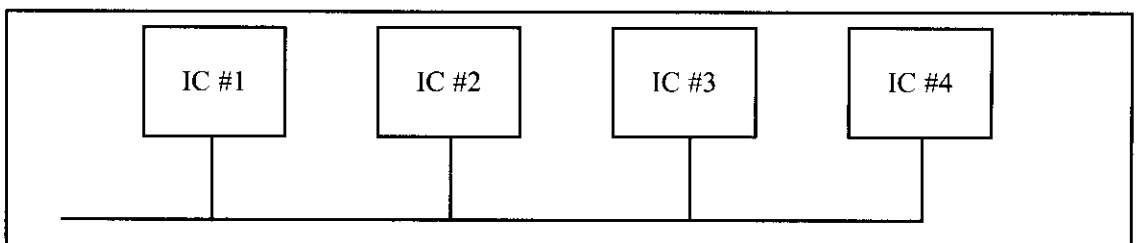

Figure B-1. Daisy Chain Connection (not recommended for power lines)
7. To further reduce problems with power, each IC must have its own connection to the main power of the board. If your perfboard does not have built-in power buses, run a separate power and ground wire from each IC to the main power. In other words, DO NOT daisy chain (chip-to-chip connection is called daisy chain) power connections, as each connection down the line will have more wire and more resistance to get power through. See Figure B-1. However, daisy chaining is acceptable for other connections such as data, address, and control buses.